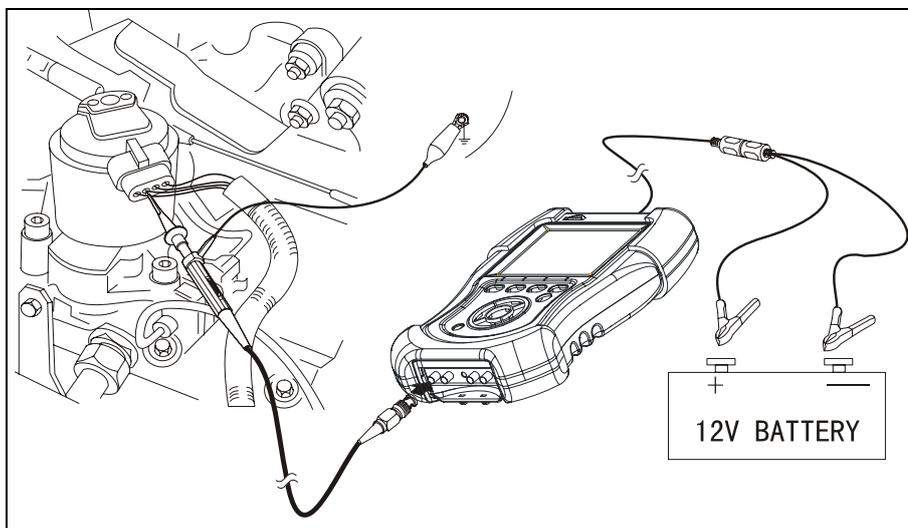

Fig. 4-3
When connecting KT600 to extension line for power supply, choose battery or cigar igniter as power supply according to the battery position of vehicle mode tested. All connecting diagrams in this users manual take power supply by battery as example. If choosing cigar igniter connector, confirm that cigar igniter has 12V battery voltage first. Connect test probe to Channel 1 (CH1 port), and then connect the small alligator clip on test probe to the negative of battery or grounding, pierce test probe into the EGR valve signal line. Connecting diagram is shown as Fig.4-3.
1. Connect equipment according to Fig.4-3, switch on power supply switch of KT600;